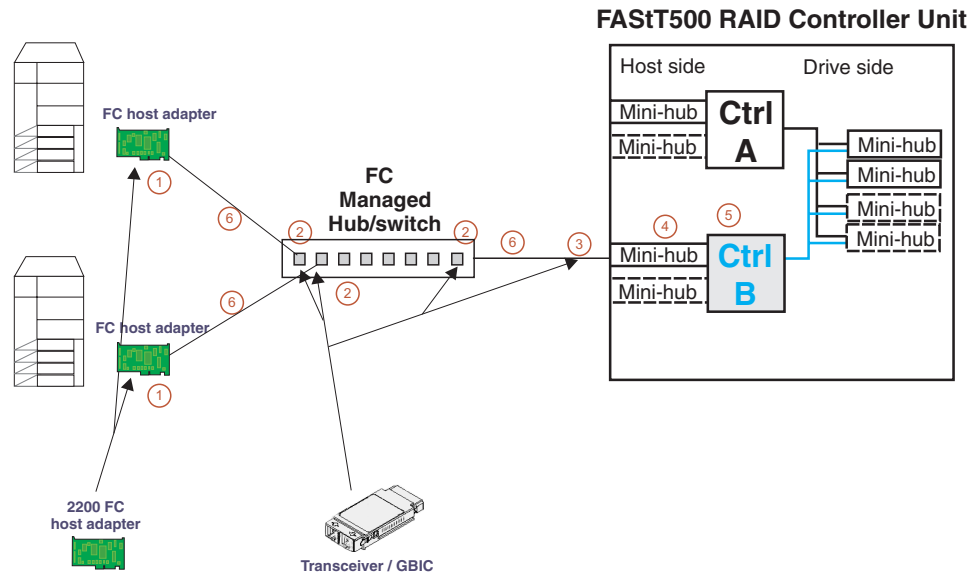

Figure 55. Path elements loop
3. To see more clearly what is involved, redraw the configuration showing the path elements in the loop, as shown in Figure 55 on page 155.
The elements of the paths shown in Figure 55 are as follows: